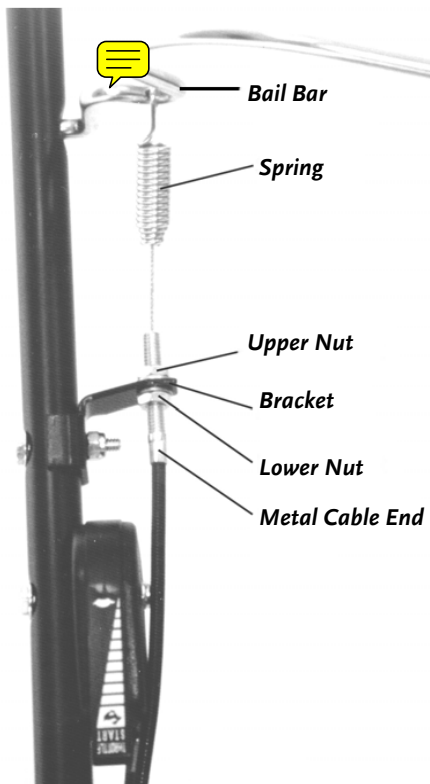

Figure 37
BEFORE ADJUSTING THE TRIMMER CONTROL CABLE, CHECK THAT THE BELT MOUNTING IS ON THE CORRECT SIDE OF THE IDLER PULLEYS (SEE FIGURE 25 ON PAGE 35), AND NOT FRAYED, WORN OR STRETCHED. ALSO MAKE SURE THE SPRING IS ATTACHED TO THE BAIL BAR (FIGURE 37).
1. Loosen the upper Control Cable Adjustment Nut, leaving about 1/8" of space between the Nut and Bracket (Figure 37).
2. Gently pull down on the Cable as you tighten the lower Nut until it is flush and snug against the Bracket (Figure 37).